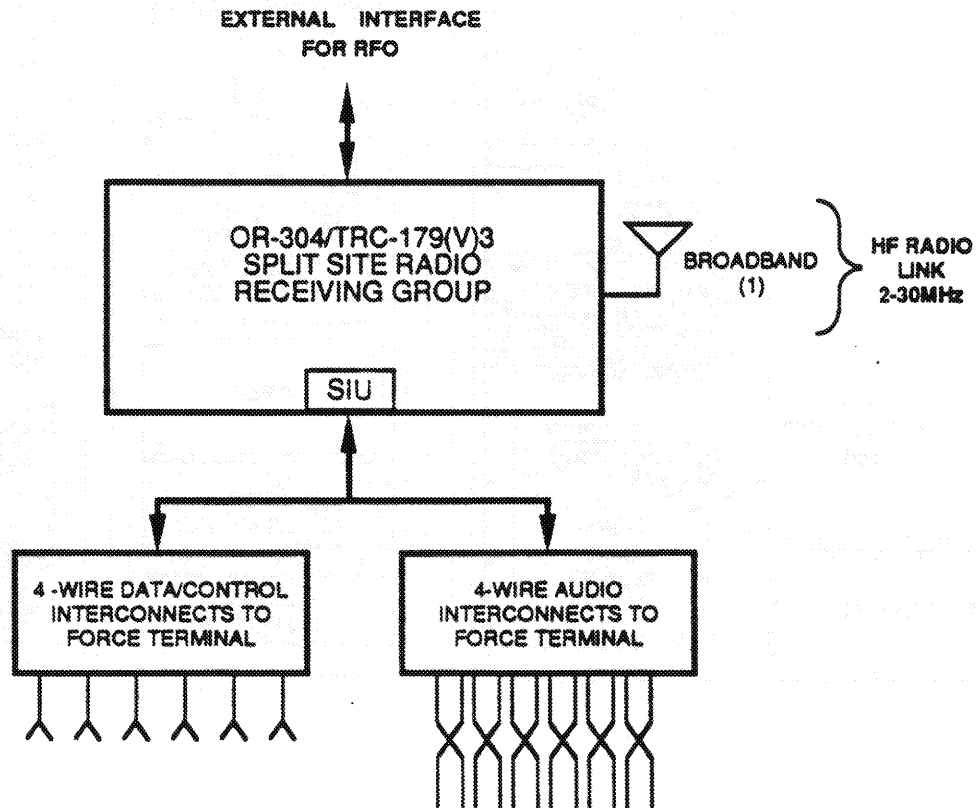

Figure 3-3. Receiver Group Communication Interconnects
d. The TXS-RXS interconnects consist of six four-wire circuits (see Figure 3-3). Three of the circuits are remote data/control interconnects, and three are remote audio interconnects. The connection between the TXS and the RXS is made at the SIU.